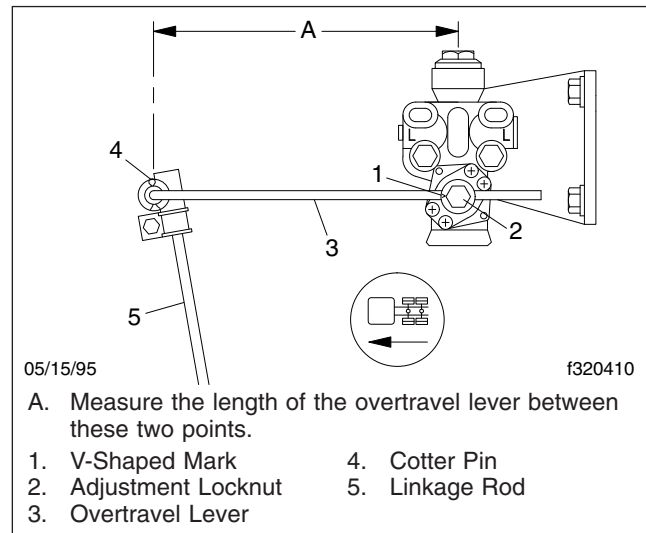

Fig. 6, AirLiner Overtravel Lever and Linkage Rod Measurement
3. Check the length of the overtravel lever between its pivot points. See Fig. 6, Ref. A.